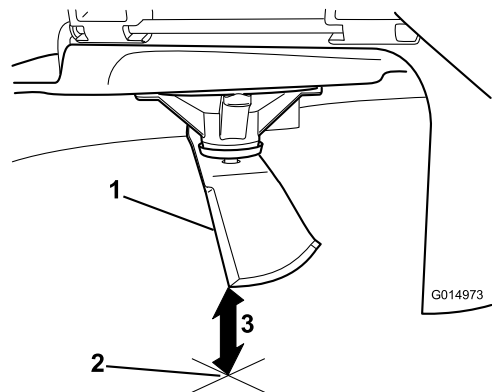

Figure 117
5. Measure from the tip of the blade to the flat surface (Figure 117).